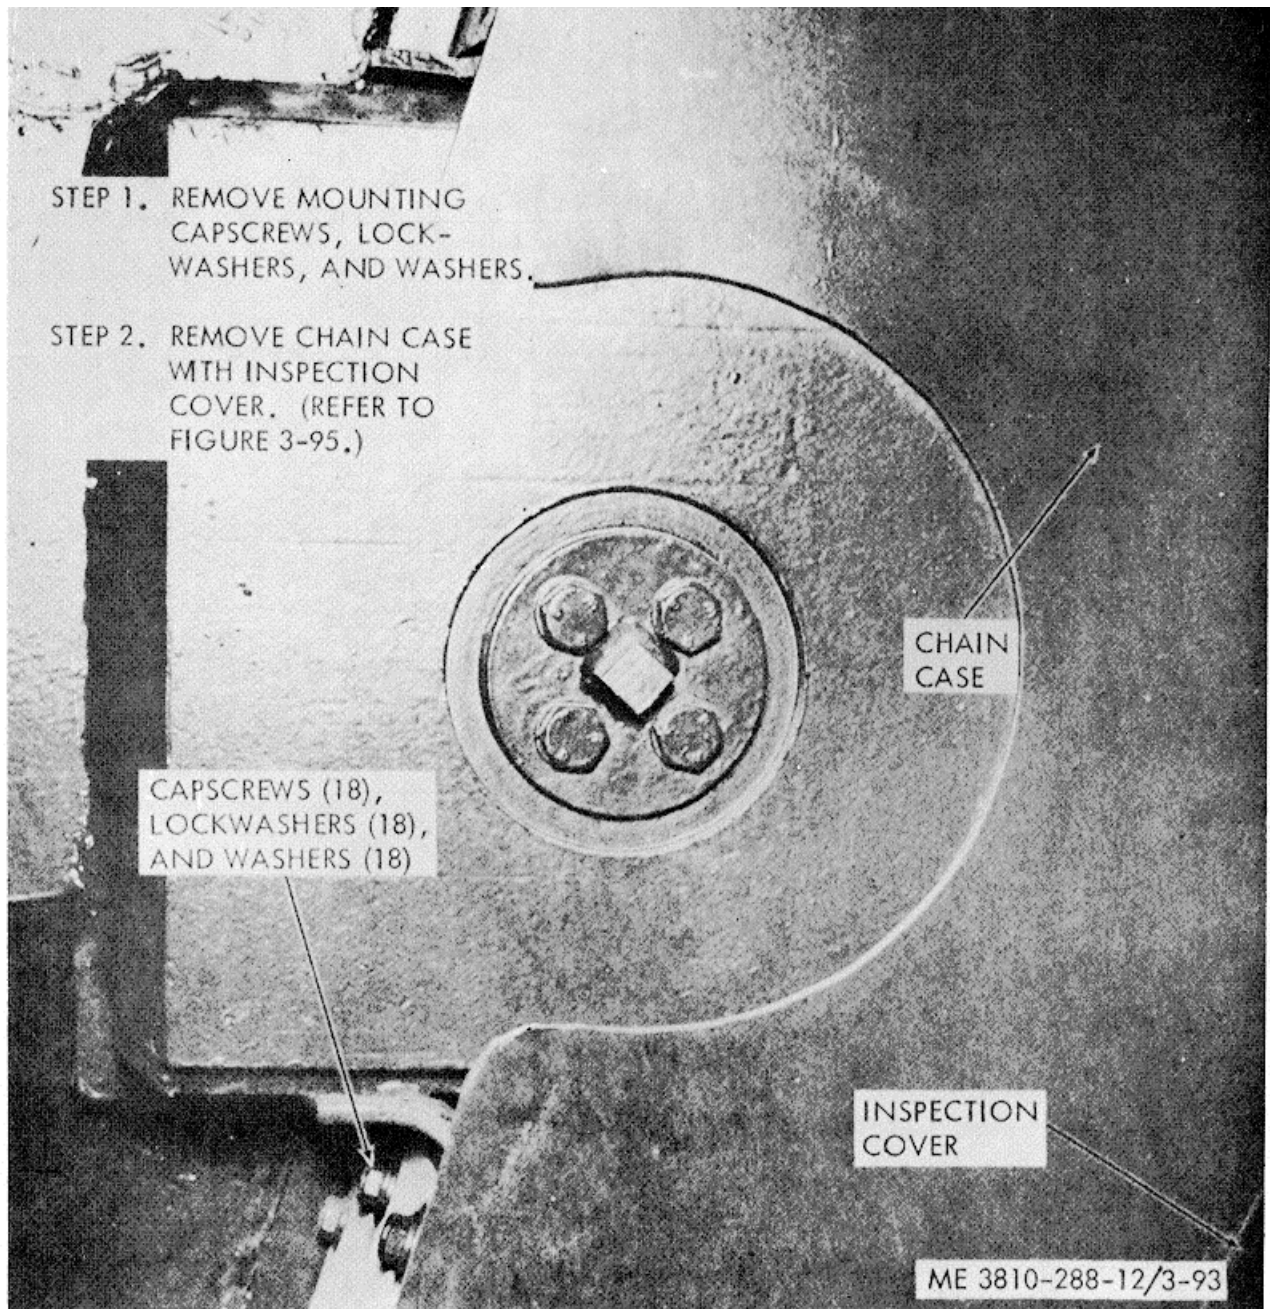

Figure 3-93. Rear drum chain case, removal and replacement.
c. *Rear Drum Chain.* Refer to figure 3-93 and remove the rear drum chain case. Then refer to figure 3-94 and remove the rear drum chain.